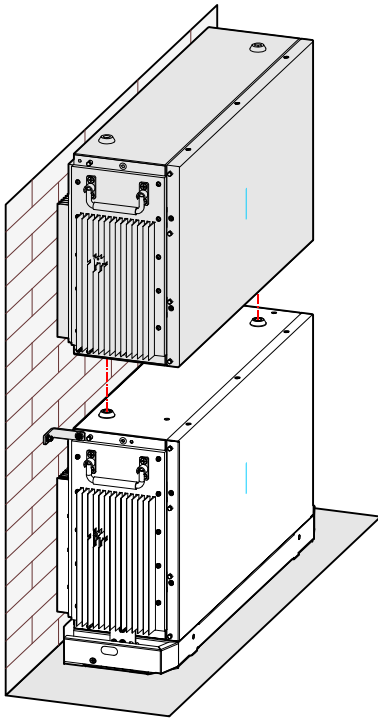

Figure3-24 Place the battery pack
3. Attach the wall bracket to the wall using seven M5 Self-tapping screws with the tool of screwdriver, as shown in Figure3-24.